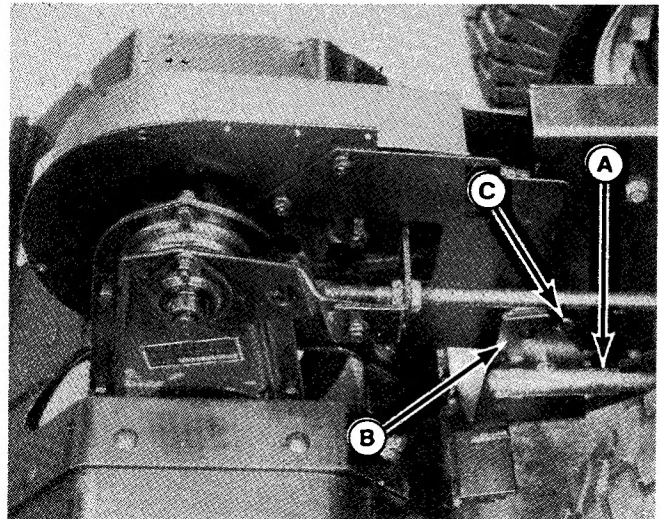

Figure 13.
12. Insert the opposite end of lift rod (A, Figure 13) through hole in tiller lift arm (B). Secure with spring clip (C).
3. Remove spring clip (C, Figure 13) from lift rod (A). Remove rod from tiller lift arm (B).